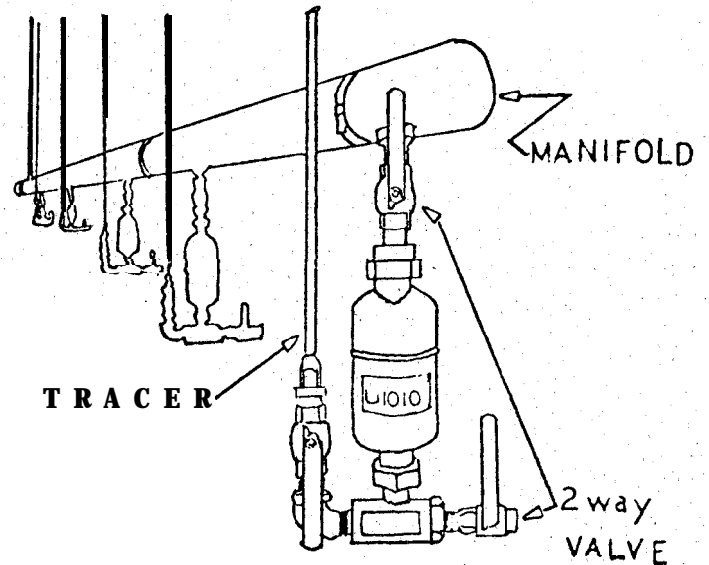

Figure 4
C. U-1010 Series with strainer (Figure 4)